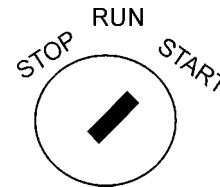

Figure 44. Ignition Switch (START)
7. Before starting the generator, press the preheat button (during cold conditions). Turn the key to the right to 'Start' (Figure 44). Once the engine starts, release the key.